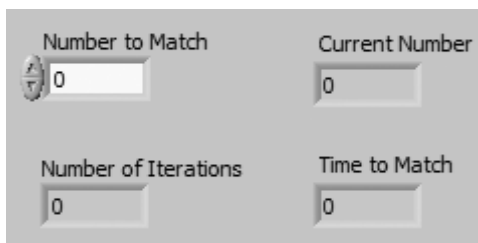

Figure 6.55
2. Build the front panel shown (see Figure 6.55).